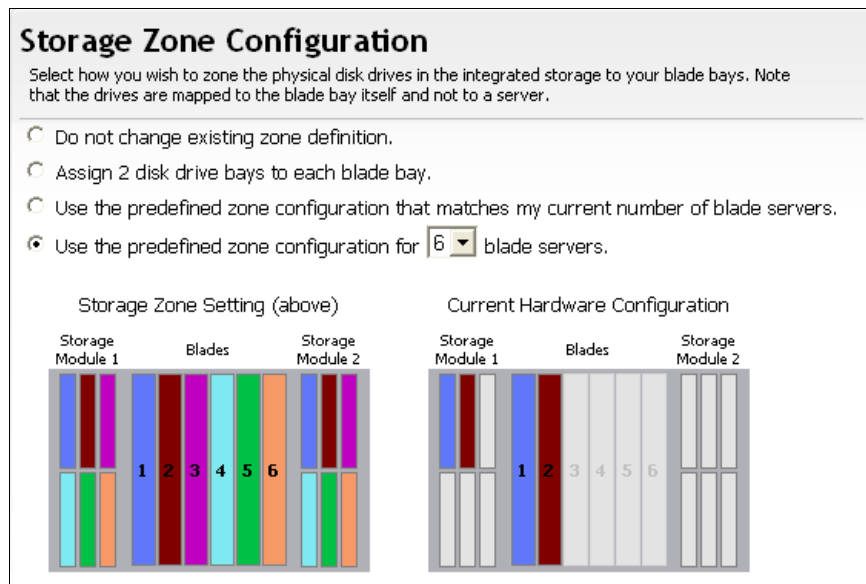

Figure 2-12 Storage zone configuration
12. In the “Storage Zone Configuration” panel (Figure 2-12), define how the blade servers are going to access the disks in the BladeCenter S chassis. The options are explained in the list following Figure 2-12.